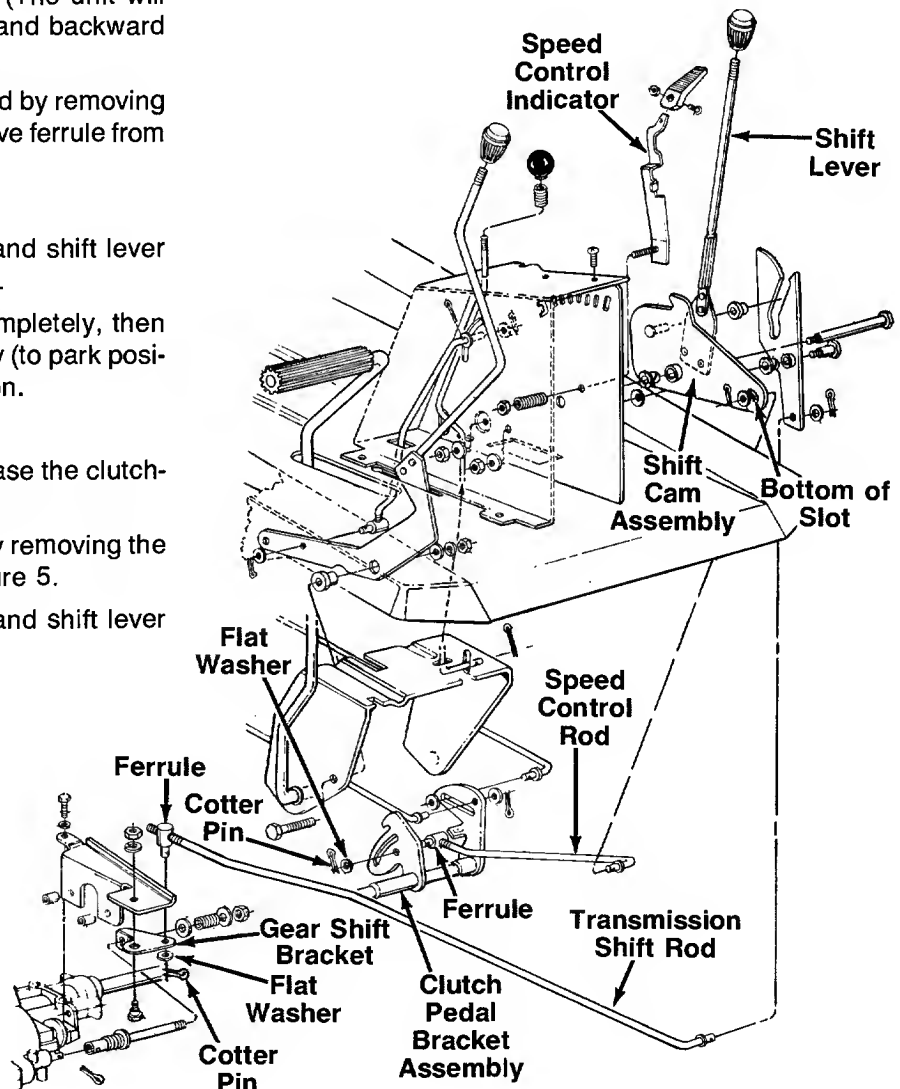

FIGURE 5.
2. Disconnect the transmission shift rod by removing the cotter pin and flat washer. Remove ferrule from gear shift bracket. See figure 5.
8. Disconnect the speed control rod by removing the cotterpin and flat washer. See figure 5.
1. With engine off, disconnect transmission shift rod by removing the cotter pin and flat washer. Remove ferrule from gear shift bracket. See figure 5.